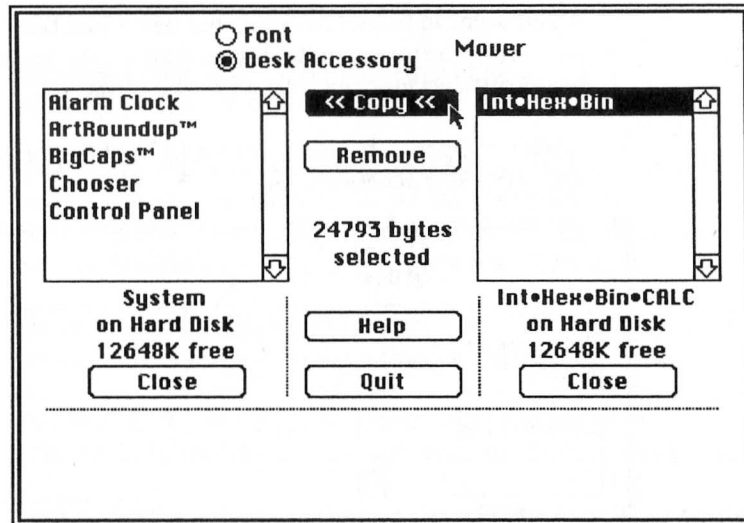

Figure 2-3 Moving a font into the System file
- 5 After the standard *GetFile* dialog box has disappeared, the name of the fonts or desk accessories available for installation are displayed in the scrolling list on the right side of the screen (Figure 2-3).